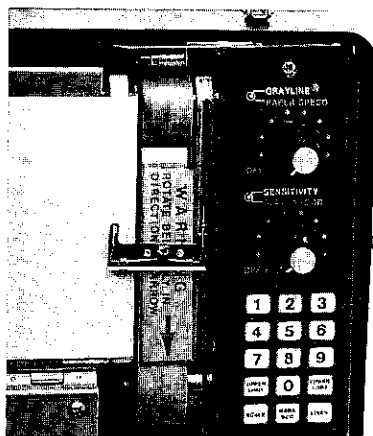

Figure 25
2. Release both catches on the top of the case. Pull out and down on the top of the case front to expose the platen assembly. (See Figure 25.)